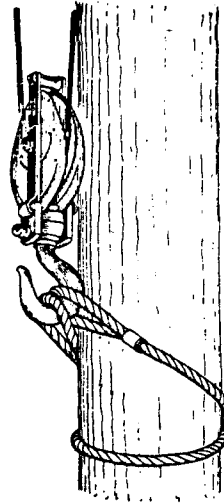

Fig. 2—Wire Rope Sling
3.04 The wire rope sling should be wrapped around the pole as shown in Fig. 2. This sling can be used in place of wrapping the winch line around the pole or to permit the use of a wire rope snatch block.